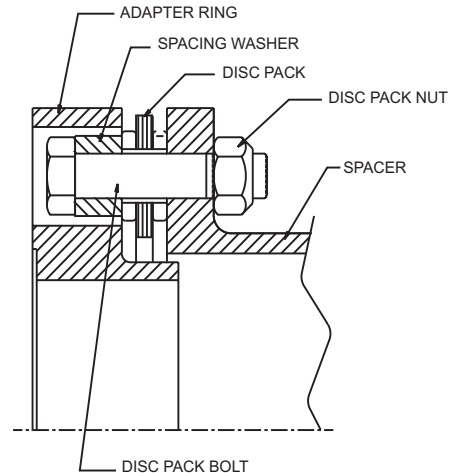

Figure 10. Bolt Disc Pack to Spacer.
6.12 Place a spacing washer over a disc pack bolt. Insert the bolt through the large hole in the adapter ring and through the disc pack bushing and reamed hole in the spacer. Place the disc pack nut on the bolt. Repeat for the other bolts (see Figure 10).